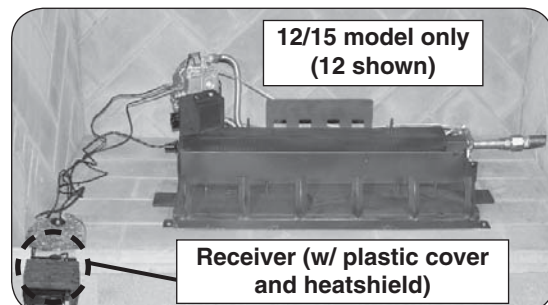

Fig. 19-4 Place remote receiver
3. **Place the remote receiver at the front left corner of the fireplace.** Place as far from the burner system as possible. See Fig. 19-4.
4. Place the plastic cover over the remote receiver with the open side facing forward to allow access to the receiver controls. Then place the decorative heatshield. See Fig. 19-4.